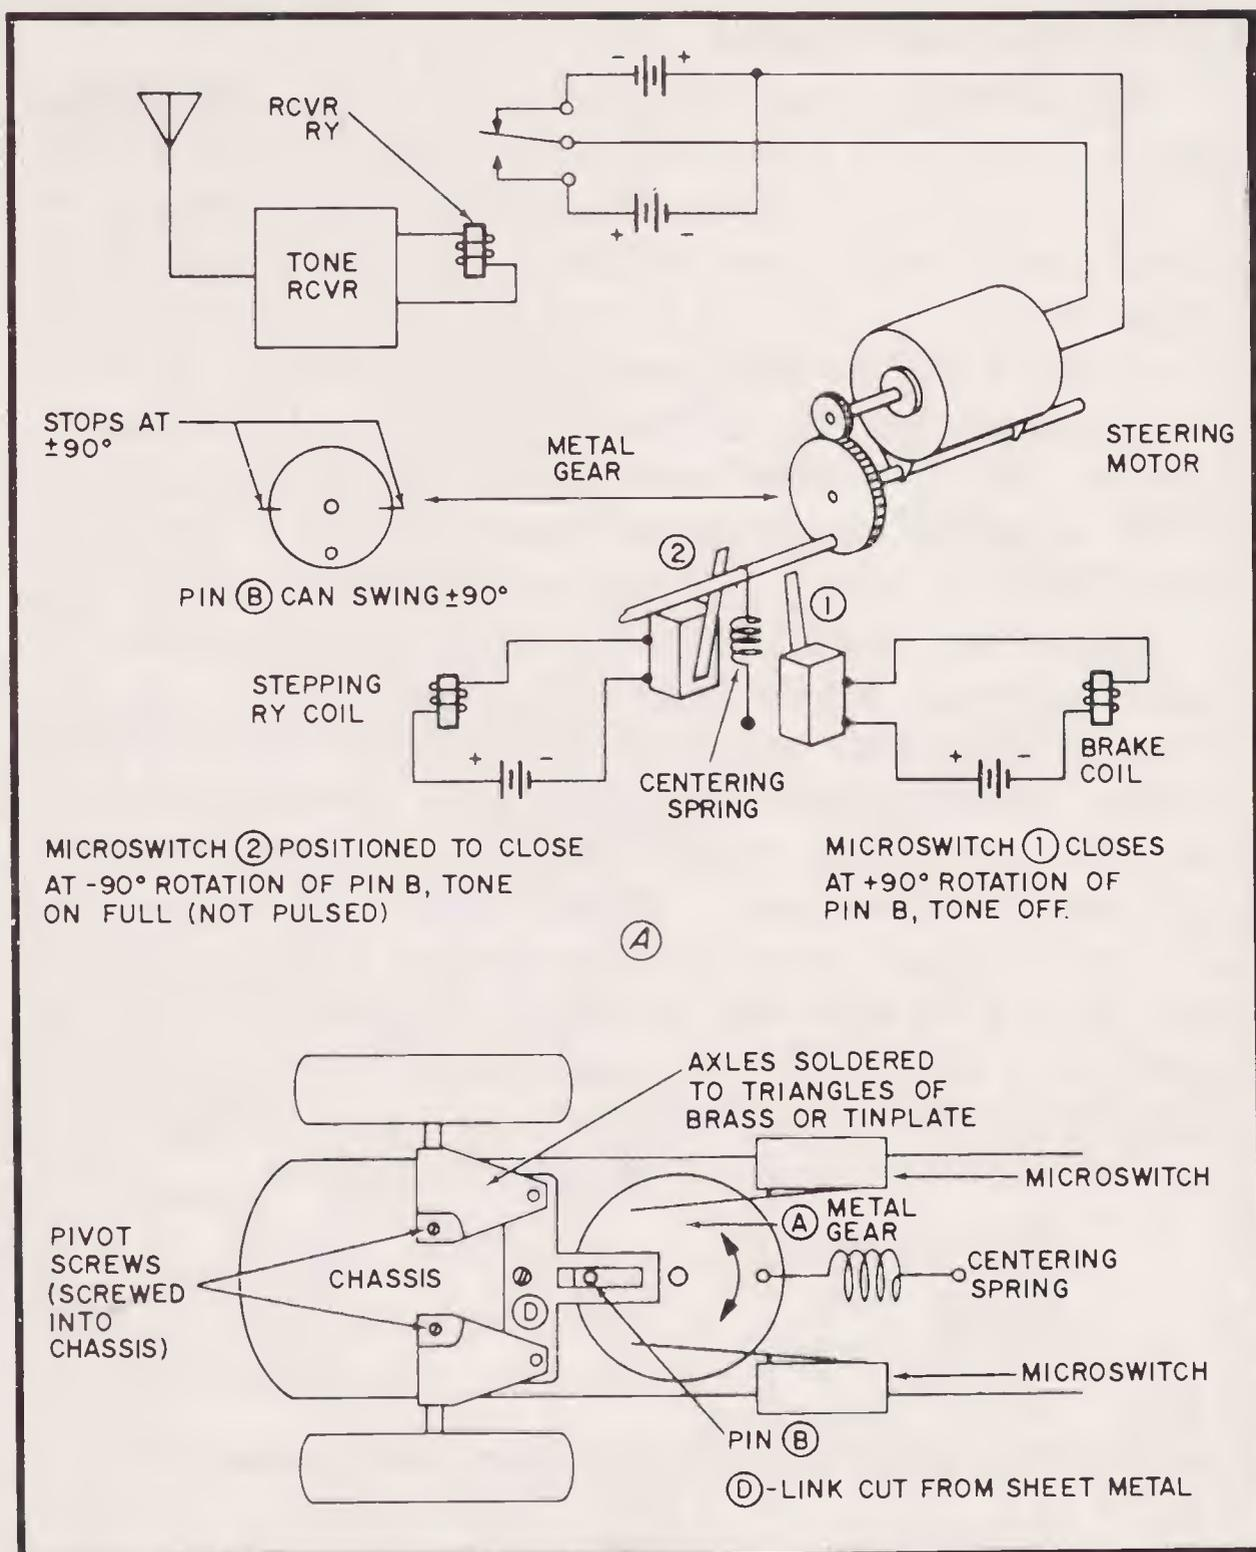

Fig. 10-1. The basic pulse-control system for model cars.
In Fig. 10-1 you can see also how the steering motor is connected to the front-wheel linkage by two small metal triangles that have axles soldered to them, and a slotted T-plate in which the steering-motor pin (B) is fitted. The two microswitches are positioned so their levers are moved by pin B when it is rotated to the 90° position in either direction.
You can use any of the pulse-width-pulse-spacing devices described earlier. You can then start the model, by starting the pulsing, steer the model by varying the pulse width and spacing, and stop the model by stopping the pulsing. Notice the switch in the relay-B line. Turn this switch off immediately when you stop the pulsing, otherwise you run the battery down. The steering motor can be the same as described in Fig. 10-1. A pulse-width-spacing transmitter and receivers are made by Ace R/C.